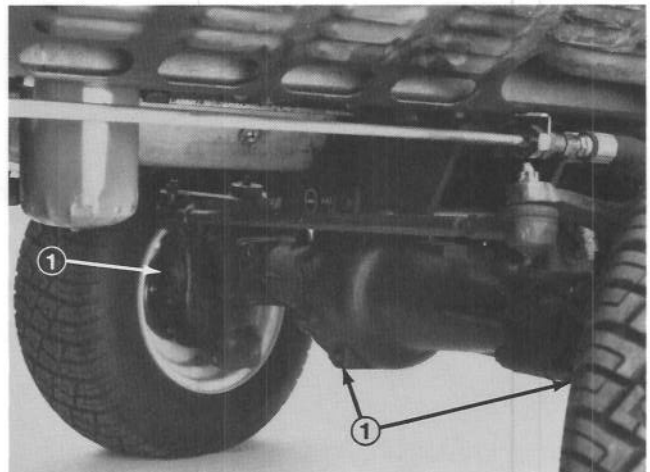

Figure 53
CHANGING REAR AXLE LUBRICANT (Model 03601 only) (Fig. 53)
2. Clean area around the (3) drain plugs, (1) on each end and (1) in the center (Fig. 53).